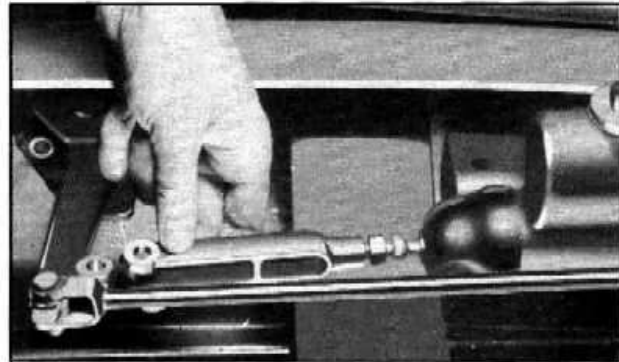

Fig. 11—Adjusting Pedal Toe-Board Clearance
- Remove clevis pin and turn the clevis attached to the main cylinder push rod, Fig. 11, in the proper direction to secure 1/4" toe-board clearance—measurement being taken between pedal arm and underside of toe-pan.